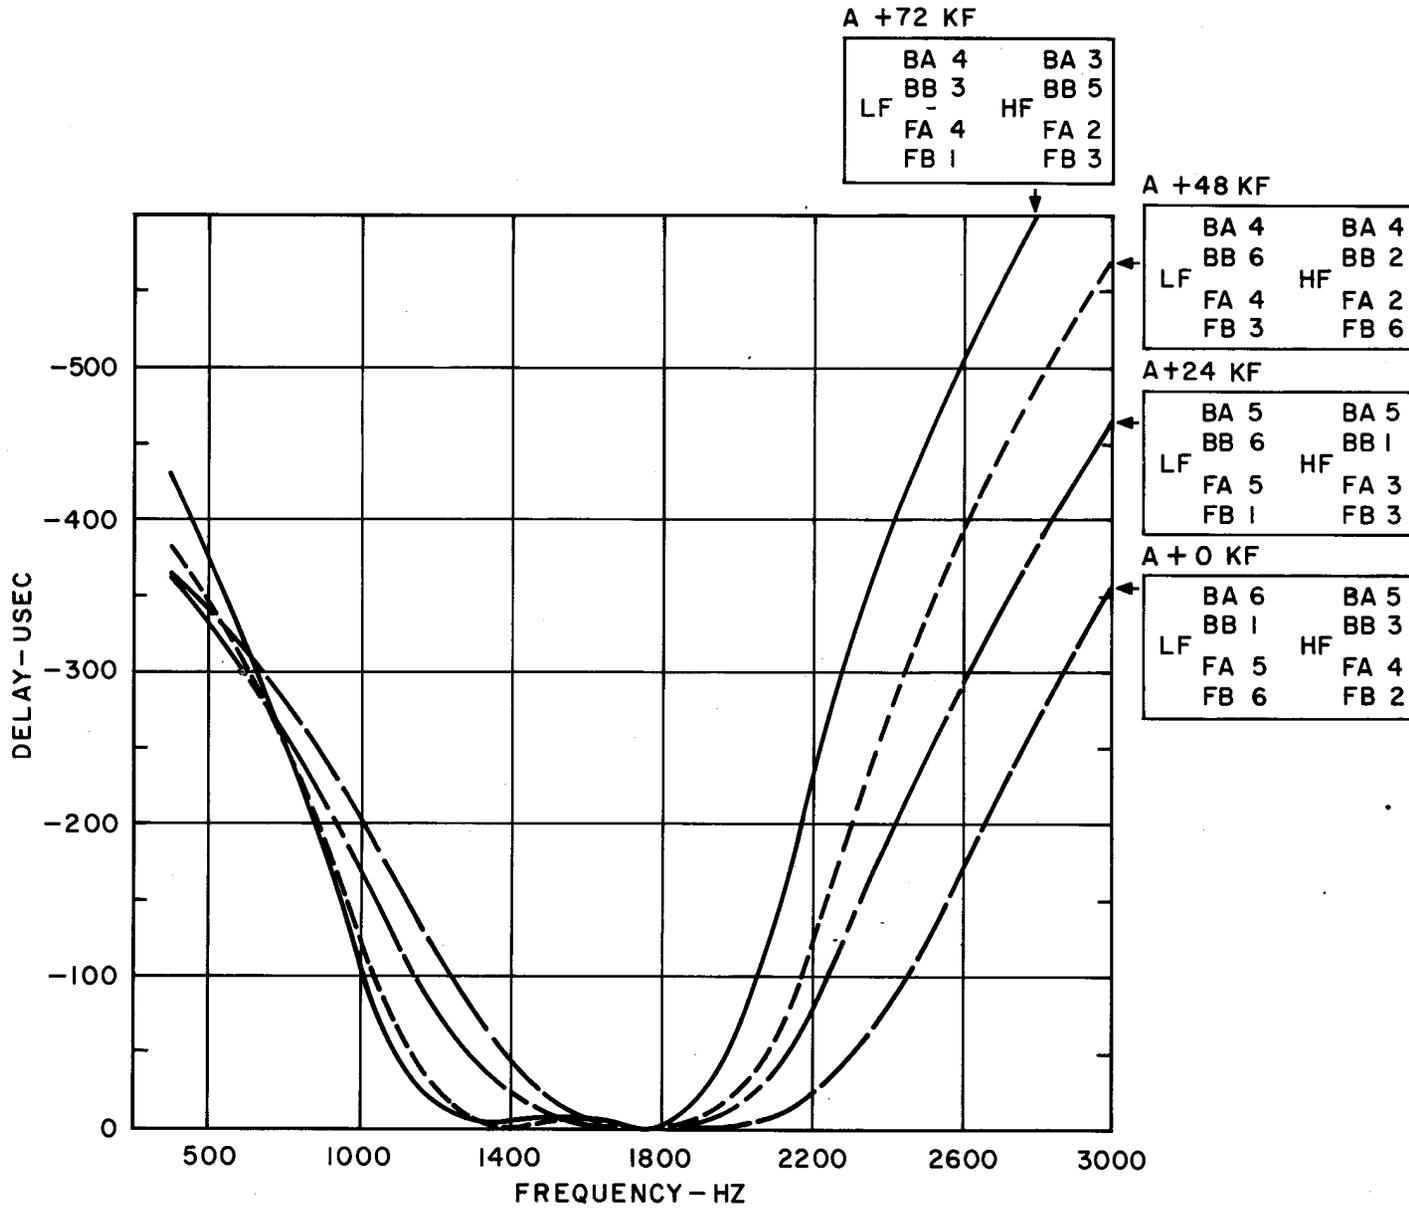
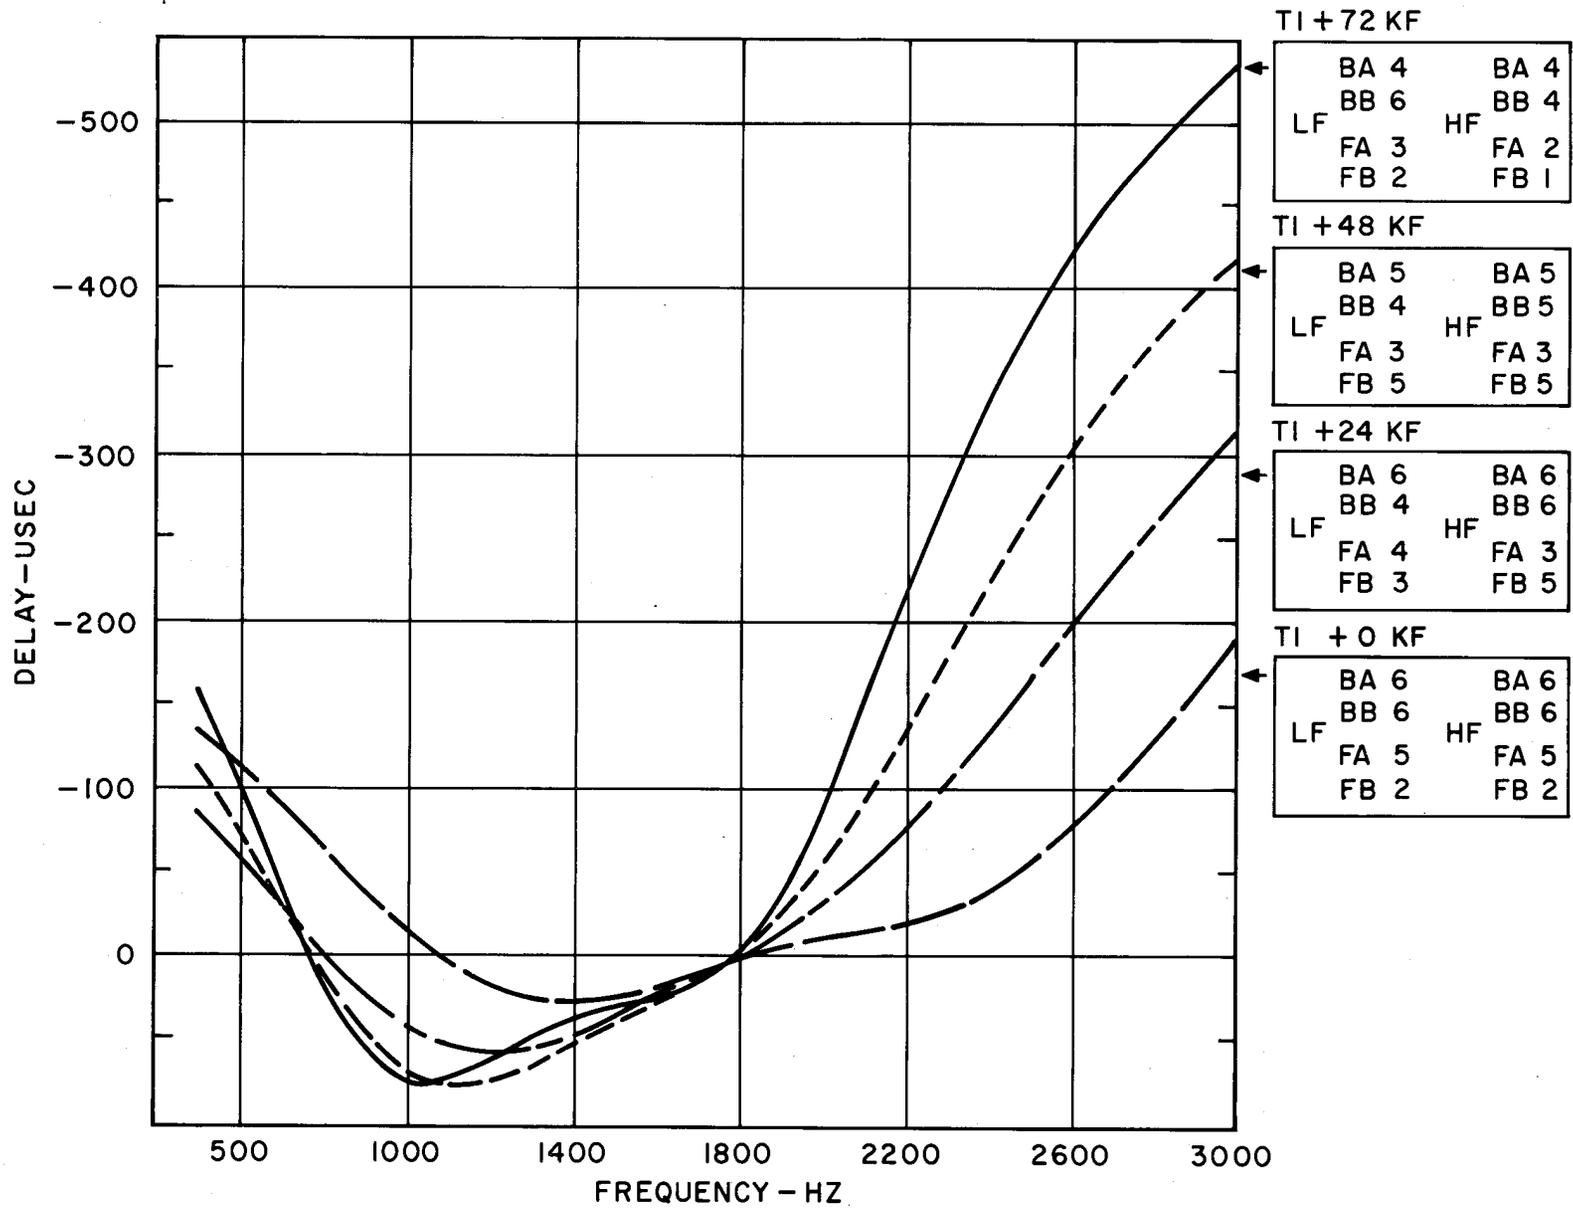

Fig. 6—Some Nominal 950B-Type Delay Equalizer Characteristic Curves Showing Compensation for the A Channel Bank and A Bank Plus H88 Loaded Cable
Fig. 7—Some Nominal 950B-Type Delay Equalizer Characteristic Curves Showing Compensation for T1 Carrier and Carrier Plus H88 Loaded Cable
3.06 The number of shapes available is so large that it is impossible to show meaningfully. A few selected examples are shown in Fig. 6 and Fig. 7 to illustrate some of the 950B-type equalizer operational capability. Figure 6 shows examples of equalizing the delay distortion of an A channel bank facility with increasing footage of H88 loaded cable. Figure 7 shows examples of a T1 carrier facility with increasing footage of H88 loaded cable.